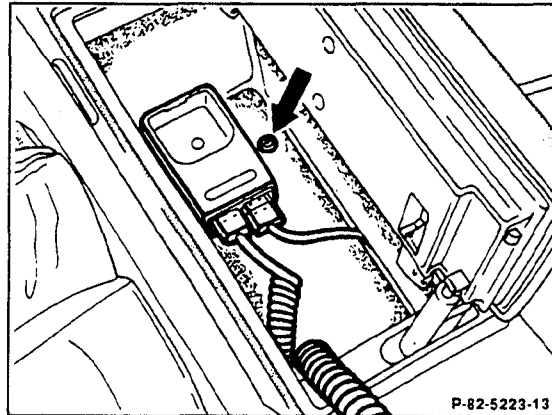

Figure 11
9. Replace carpeting and cradle into center console compartment. Harness cord should be routed on the right side with cord taped to chamfers on underside of carpeting. Secure carpeting with two screws (arrow, Figure 11) to angle bracket in compartment.
10. Connect harness connector to the right side cradle connection and the handset connector to the left side (Figure 11). Place handset in cradle.